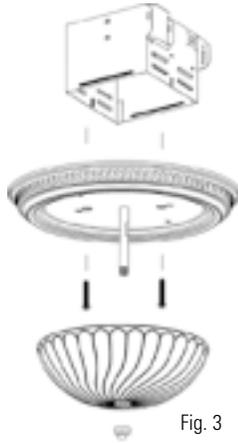

Fig. 3
2. To install the grill/lens/light reflector assembly, first remove the glass lens from the grill base by loosening the top nut. The glass lens will then lift off the center rod. (fig 3.)
3. Using the two #8 screws (packaged with the grill & Lens) secure the grill base to the housing by installing the screws through the 2 holes in the grill base and into the lances on the side of the housing. (fig 3). Remember to plug the lamp holder into the appropriate receptacle before securing the grill base in place.
4. Once the grill base is secure install the bulbs (2 x 60 watt max) and reinstall the glass lens, securing in place using the spacer and top nut. (fig 3)